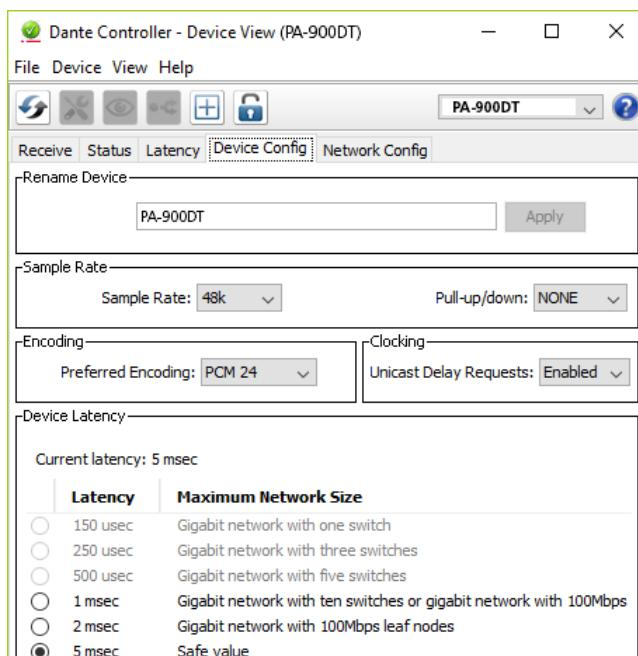

Fig. 8 Device View of PA-900DT
- 5) The third bar can be used to indicate information on the unit and to make settings. Select the tab "Device Config" (refer to fig. 8).